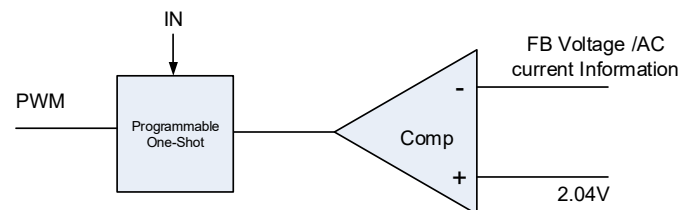

Figure 6. Simplified Control Schematic of AOZ2295QI-05
The control algorithm of AOZ2295QI-05 is constant-on-time PWM control with input feed-forward. The simplified control schematic is shown in Figure 6. The high-side switch on-time is determined solely by a one-shot whose pulse width is inversely proportional to input voltage (IN). The one-shot is triggered when the internal V_{REF} is higher than the combined information of FB voltage and the AC current information of inductor, which is processed and obtained through the sensed low-side MOSFET current once it turns-on. The added AC current information can help the stability of constant-on time control even with pure ceramic output capacitors, which have very low ESR. The AC current information has no DC offset, which does not cause offset with output load change, which is fundamentally different from other V^2 constant-on time control schemes.